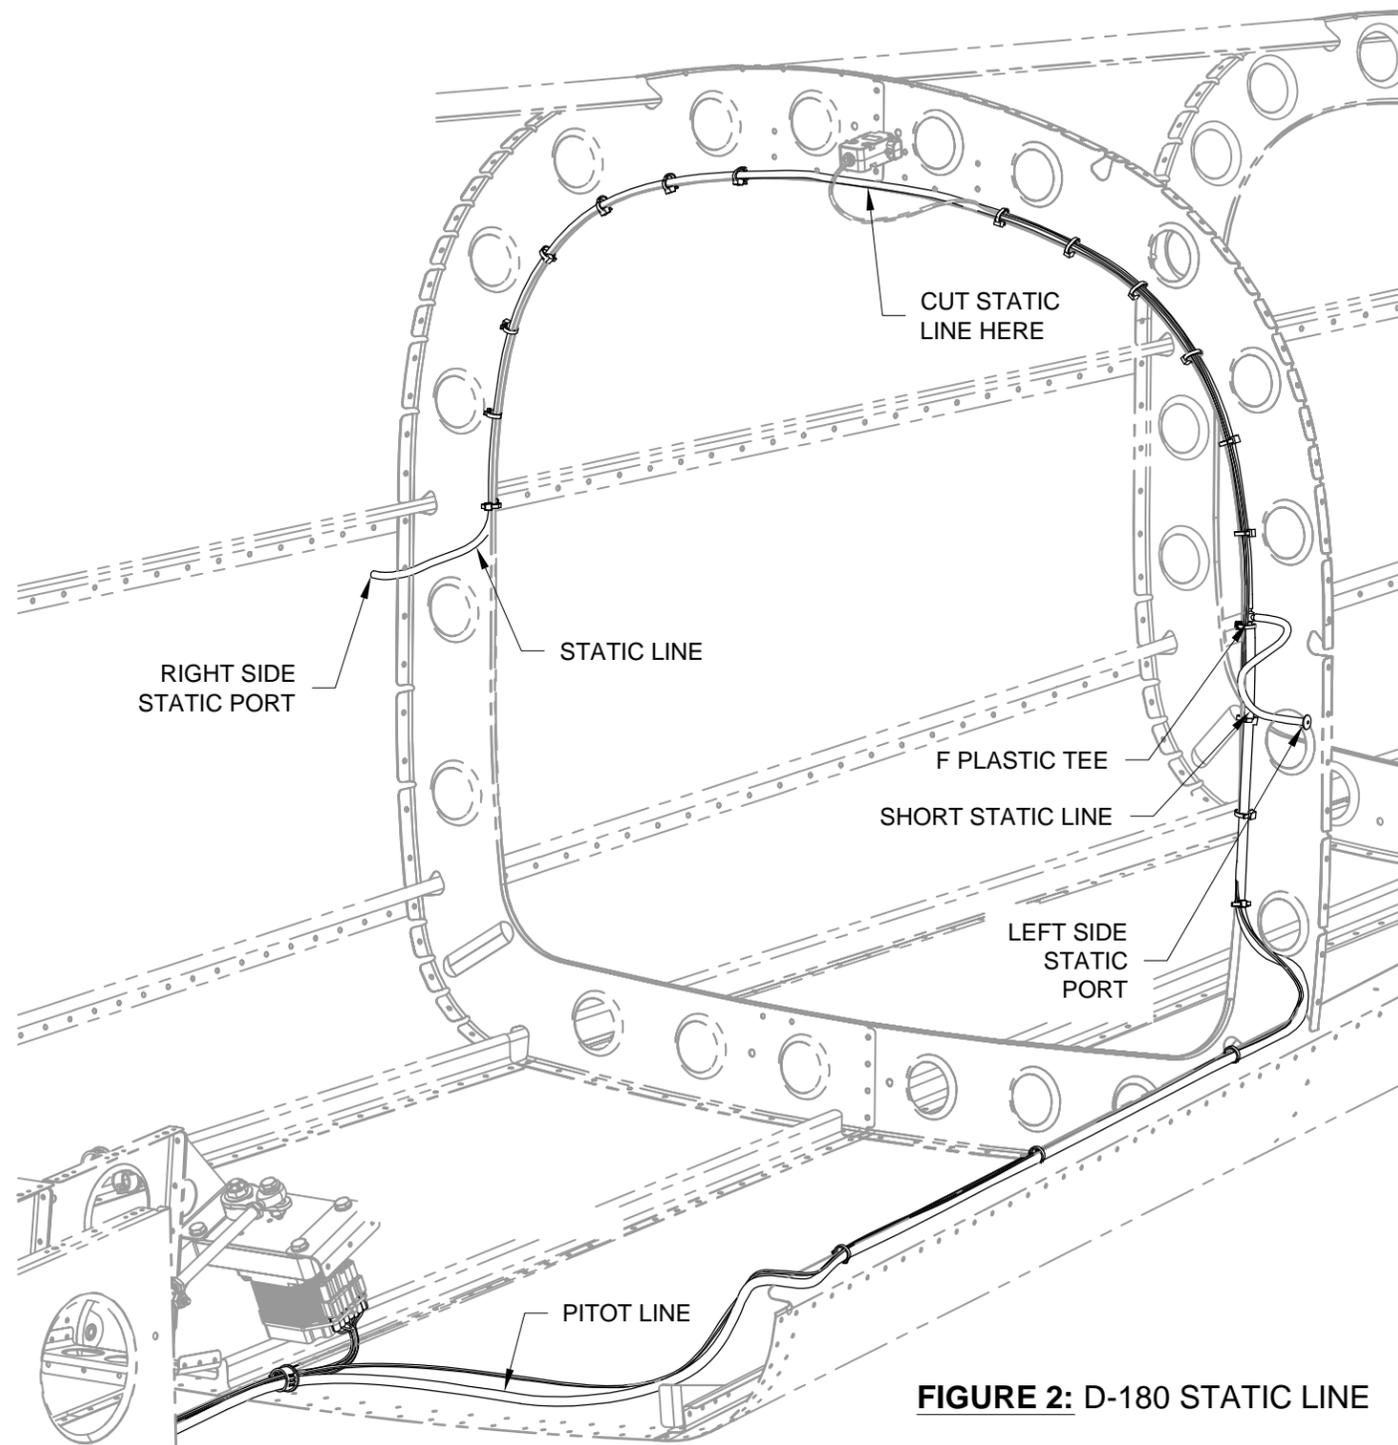

FIGURE 2: D-180 STATIC LINE
Step 3: Cut the Static Line going from the F PLASTIC TEE to the Right Side Static Port, at the centerline of the aircraft. See Figure 2.